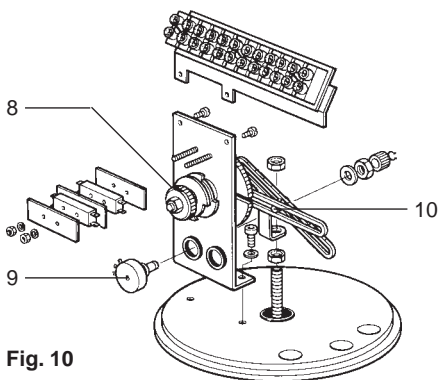

Fig. 10
For the following instructions refer to Figure 10.
4. Adjust the actuator to the end position as dictated by the DA / RA switch. This is done by turning the slotted screw in the potentiometer (9) Figure 10. At this point both red and green lights should be unlit.
Adjustment of the glider (10) Figure 10 will increase or decrease the travel. Again both lights should be out at this stage.